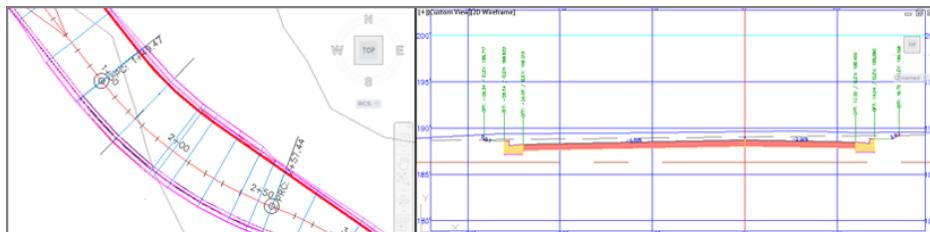

FIGURE 10.4 A plan view (left) and section view (right) of the corridor after the ditches have been removed
- Click the corridor, and then click Rebuild Corridor on the ribbon. The ditches have been removed from the corridor, as shown in Figure 10.4.